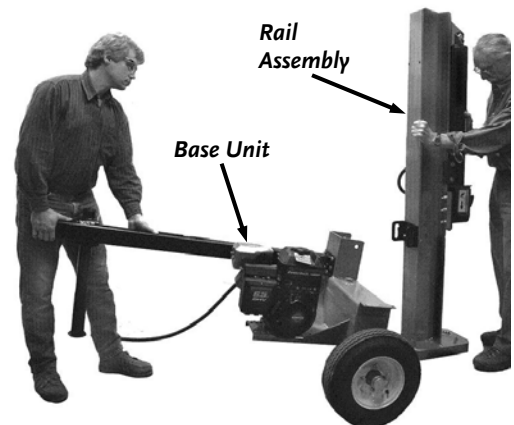

Figure 9
6. Position the base unit against the rail assembly (**Figure 9**).